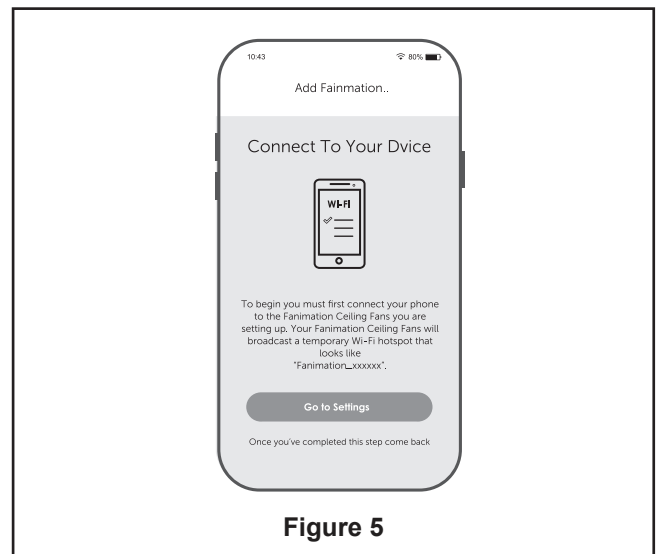

Figure 5
- ☐ 4. After connections have been made, put the white and green leads to one side and the black leads towards the other side, the connection should be turned upward and carefully push leads into the outlet box. The wires should be spread apart with the grounded conductor and the equipment-grounding conductor on one side of the outlet box and the ungrounded conductor on the other side. (Figure 5)
- ☐ 5. Assemble the cap to the switch housing assembly by twisting in a clockwise direction. (Figure 5)
- ☐ 5. Install two 3V batteries in hand-held remote transmitter, with fan power off. (Figure 5)
- ☐ 5. At this stage, your ceiling fan WiFi receiver should be installed and within range of your WiFi router. With the APP open, select "add device". (Figure 5)